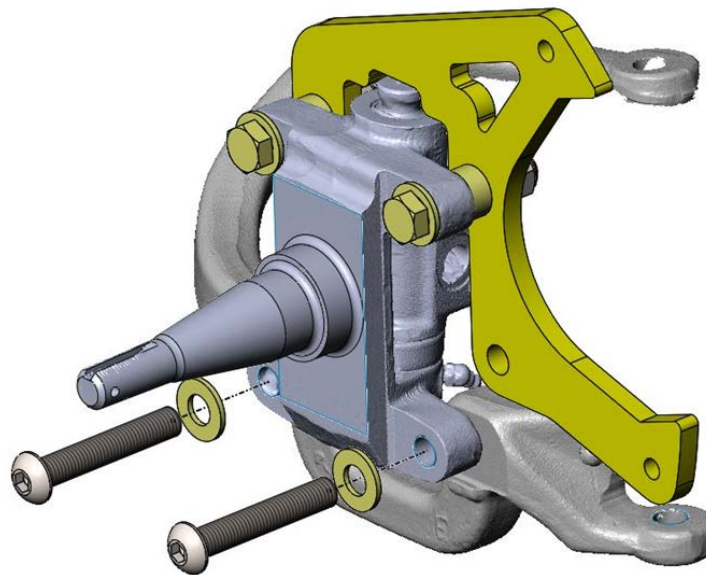

Figure 2 – Lower Button Head Bolts Being Installed
5. At the two lower mounting ears on the spindle, use the 1/2"-20 x 3.000" Grade 8 Button Head Cap Screws. **NOTE:** Both lower steering are mounting bolts require replacing due the close proximity of the rotor to the front side of the spindle and the bolts. Install a flat washer on each bolt at installation. Figure 2 below shows the bolts assembling into the spindle.